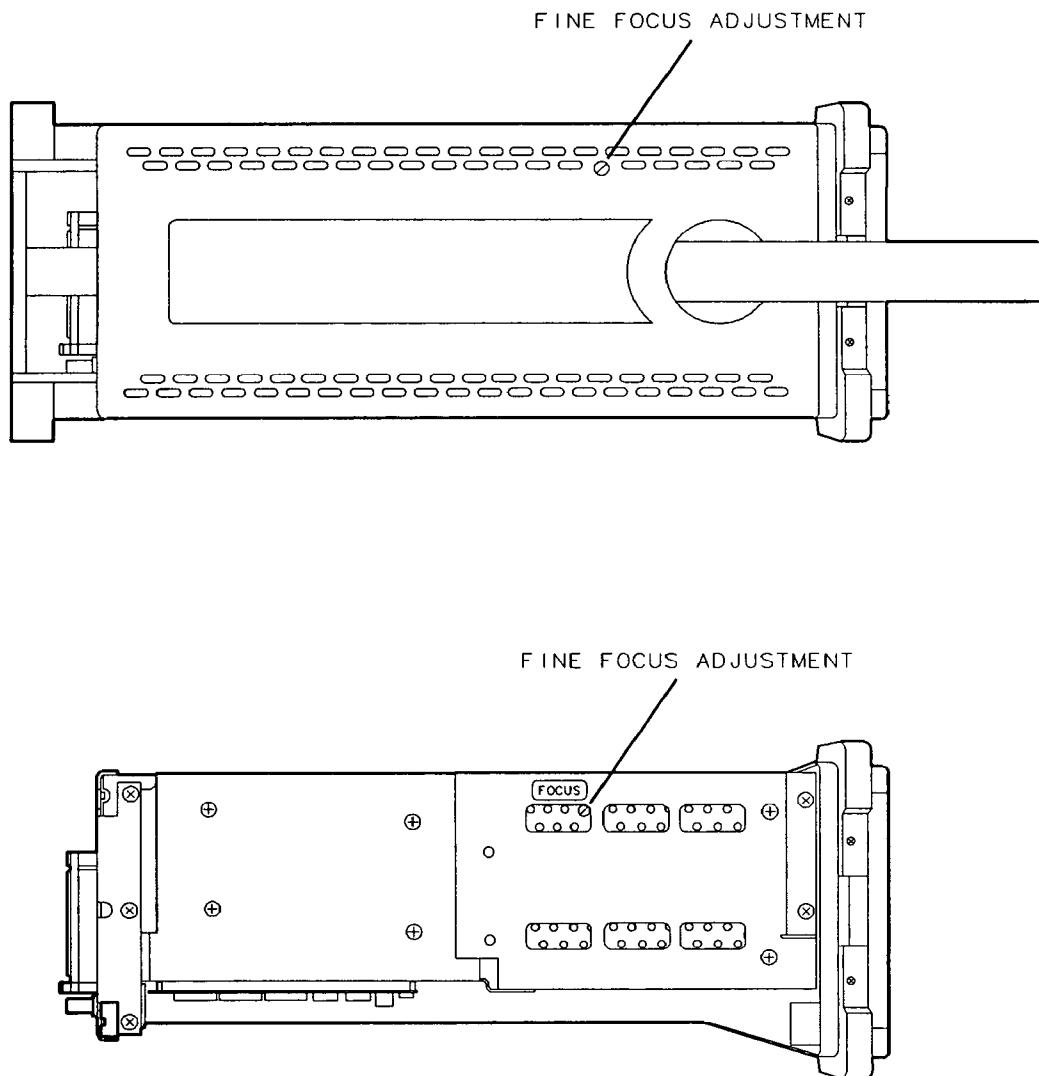

Figure 2-3. Fine Focus Adjustment Location
7. Use an adjustment tool to access the fine focus adjustment. See Figure 2-3. Adjust as necessary for a focused display. If one of the end-stops of the fine focus adjustment is reached, proceed with the “Coarse Focus Adjustment” section.
10. Center the fine focus adjustment. Refer to Figure 2-3 for the adjustment location.